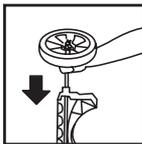

FIGURE 6
7. Slide axle through holes provided in tool rack. **FIGURE 6.**